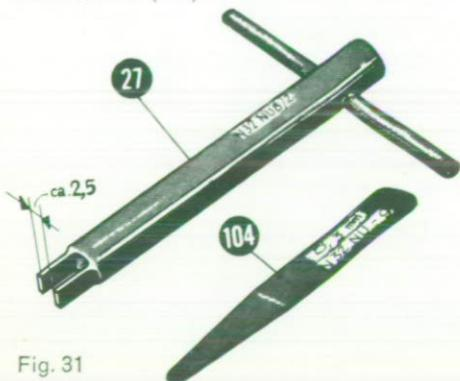

Fig. 31
- (1) Adjustment with new rack pinion
- (2) Adjustment of shuttle driver where shuttle driver and pinion are machined untrue (as supplied by the factory).
If (1). The rack pinion (100) is still loose on the shuttle driver spindle (101): Test the size of the thread passage, i.e. the play between shuttle-hook (103) and shuttle driver (102). It should be 0,3 mm (0,0119") and should be checked with a feeler gauge N 32 NU 9 (104) / Fig. 31. If it is too large or too small, adjust the lower driver leg (102) by means of ad-
justing tool N 32 NU 8 (27) - Fig. 31 - inward or outward, until gauge (104) shows the correct play between driver (102) and shuttle (103).